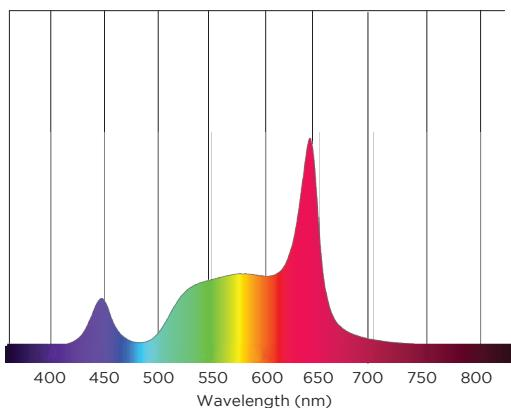
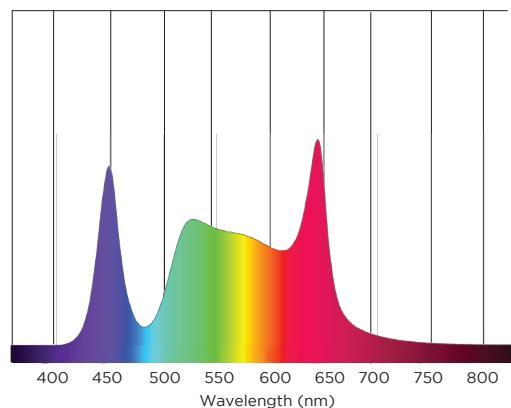
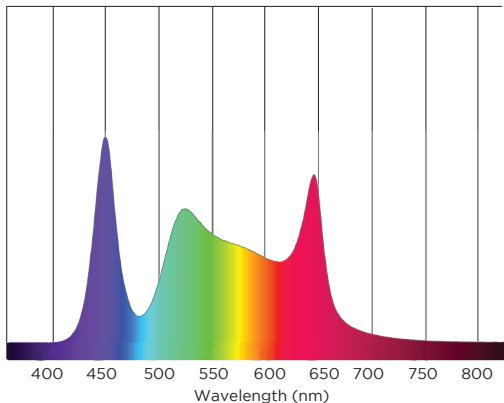
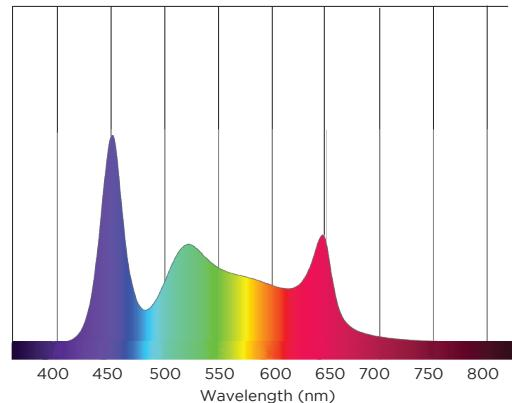

FIGURE 12.VL5LED PRODUCING 2700K WHITE
FIGURE 13.VL5LED PRODUCING 4500K WHITE
FIGURE 14. VL5LED PRODUCING 5600K WHITE
FIGURE 15. VL5LED PRODUCING 8000K WHITE
**FIGURE 12, FIGURE 13, FIGURE 14, and FIGURE 15** demonstrate the spectrum ranges for just a few of the different color temperatures, all of which are 85 CRI or better. You can see how the six LED colors can work together to build a full spectrum of colors.